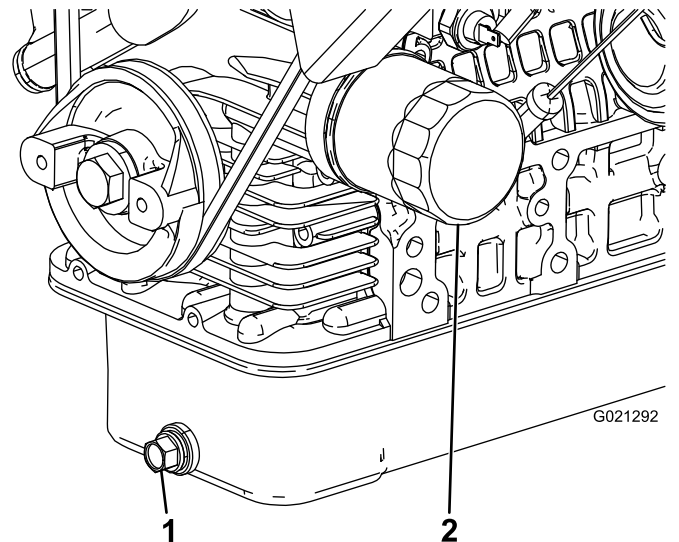

Figure 42
2. Remove the drain plug and let oil flow into a drain pan (Figure 42). When the oil stops, install the drain plug.
3. Remove the oil filter (Figure 42).